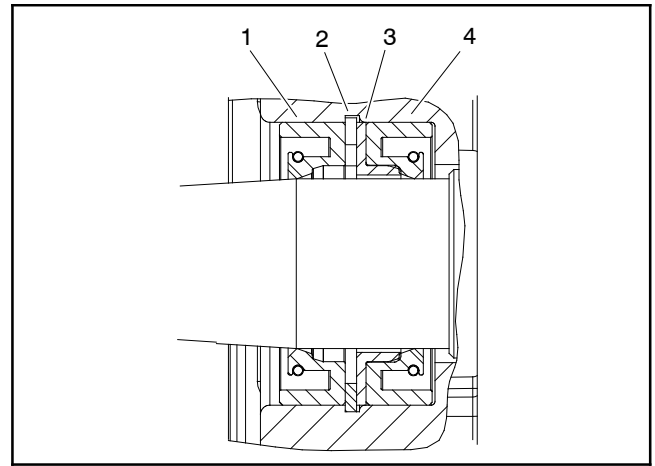

Figure 88
10. Carefully remove dust seal, retaining ring, flange washer and shaft seal from the front flange (Fig. 88). Note orientation of seal lips during removal. Discard removed seals.
2. Install new seals into front flange (Fig. 88). Note orientation of seal lips during installation: